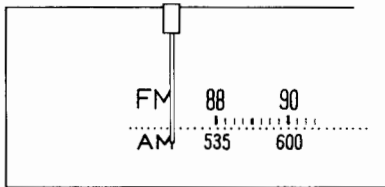

Fig. 3-2
- 2) Set the dial pointer to the position on dial scale as shown in Fig. 3-2.